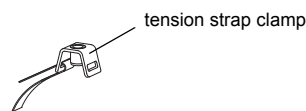

Fig. 7.7: Tension strap with tension strap clamp
- Insert approx. 100 mm of the tension strap into one of the slots of the tension strap clamp and bend it (see Fig. 7.7).